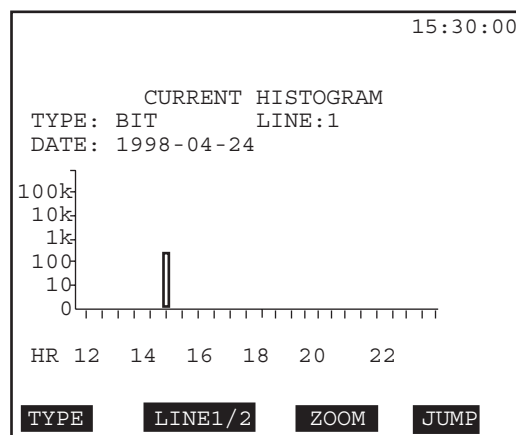

Figure 49 View Current Histogram
- a) Select VIEW (F1) to view the current histogram. Figure 49 shows a sample histogram screen.
In Figure 49, bit error was selected as the error type. In this manner you may examine the history of certain errors or parameters depending on the test mode.